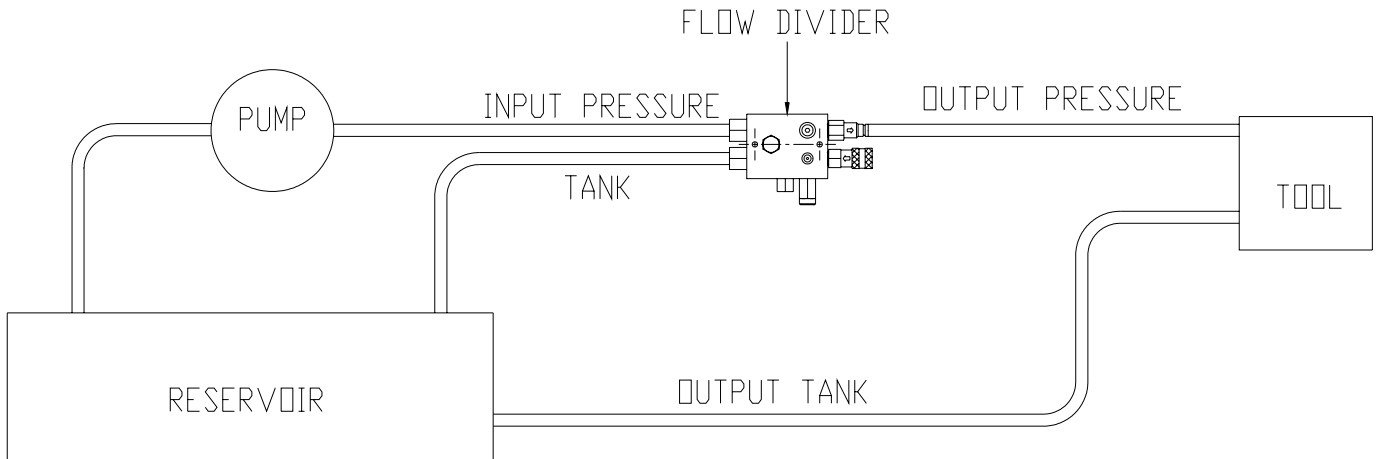

Figure 2
- Some hydraulic hand tools are very sensitive to back pressure. Hydraulic breakers, for example, will not operate properly if the back pressure exceeds 150 psi. Connecting the tool return hose directly into the flow divider can add excessive back pressure due to the power supply hydraulic components. When back pressure sensitivity is a problem, connect the tool return line directly to the power supply hydraulic tank. This is shown in Figure 2.